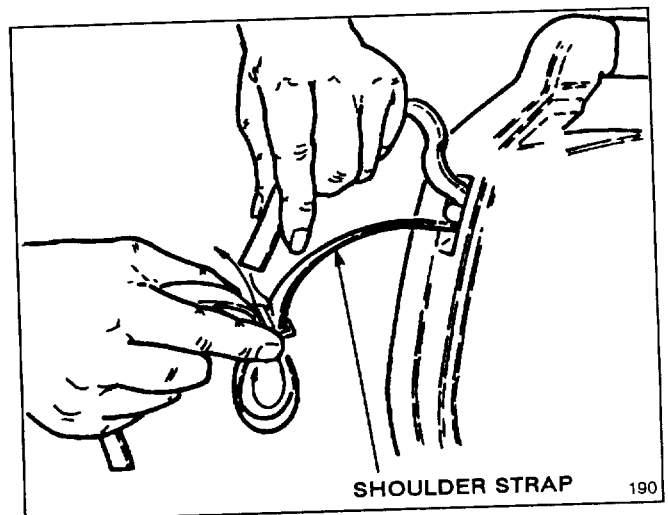

Figure 3
1. Insert the strap through openings in blower housing. Thread strap through buckle (Fig. 3).